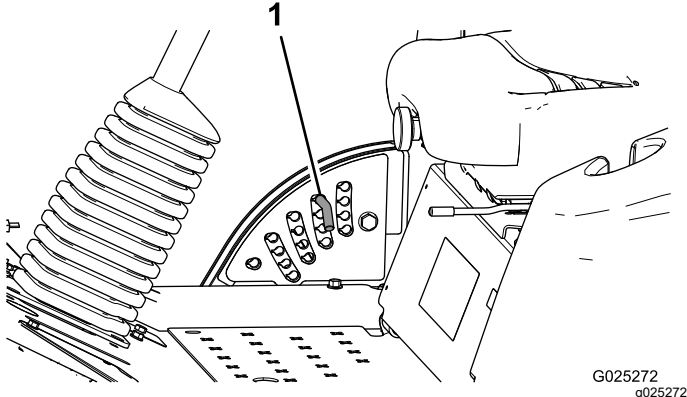

Figure 7
2. Rotate the stop pin until the nub on it lines up with the slots in the holes in the height-of-cut bracket and remove it (Figure 7).
3. Select a hole in the height-of-cut bracket corresponding to the height of cut desired, insert the pin, and rotate it down to lock it in place (Figure 7).
Note: There are 4 rows of hole positions (Figure 7). The top row gives you the height of cut listed above the pin. The second row down gives you the height listed plus 6 mm (1/4 inch). The third row down gives you the height listed plus 12 mm (1/2 inch). The bottom row gives you the height listed plus 18 mm (3/4 inch). For